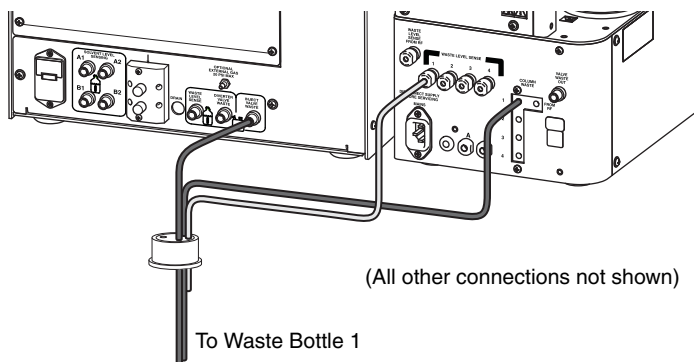

Figure 4-8 Channel 1 waste tubing connections
5. Select one of the four waste line assemblies (PN 60-5234-188) from the accessory package. This will be used to complete the waste connections for channel 1 as shown in Figure 4-8.
- f. At the waste container cap for channel 1, insert the black tubing from the Inject Valve Waste port. The completed waste connections for Channel 1 are shown in Figure 4-8.